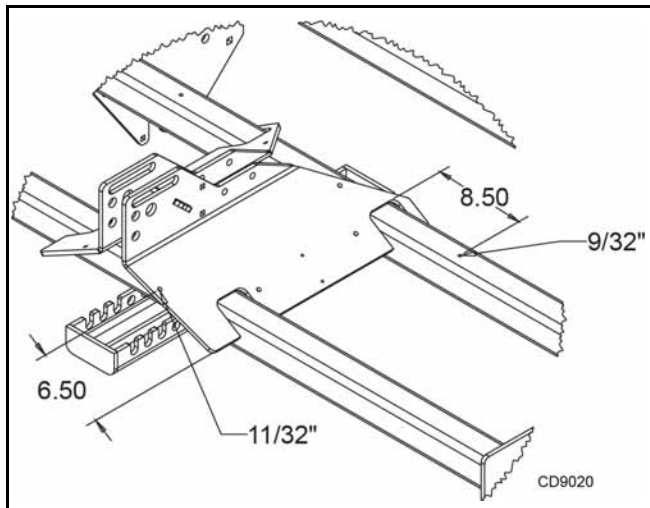

Figure 36. P-clip Hole Locations
18. Drill two 9/32" holes into seeder frame approximately 8.5" from mast plates. Drill two 11/32" holes into mast plate at the front of seeder 6.5" from the bottom edge, if applicable (see Figure 36.)